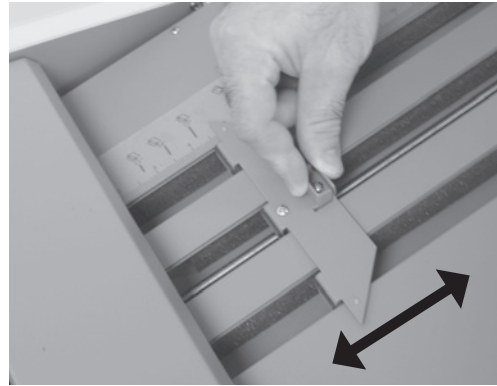
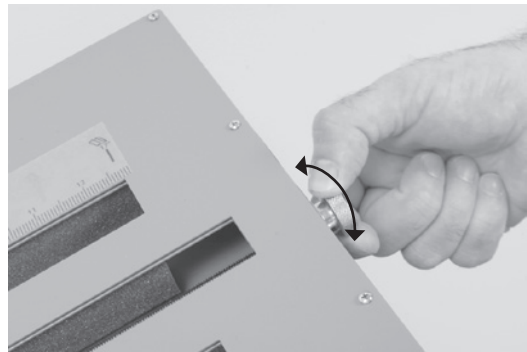

Fig. 4
Fig. 5
2. To set the fold plate stop position, squeeze the stop plate lever and move the stop plate to the desired location on the upper and lower fold plates (Fig 4). Align the pointed part of the stop plate with the desired marks on the decal and release the lever. Fine adjustments can be made with the adjustment knob at the end of the plate (Fig 5).